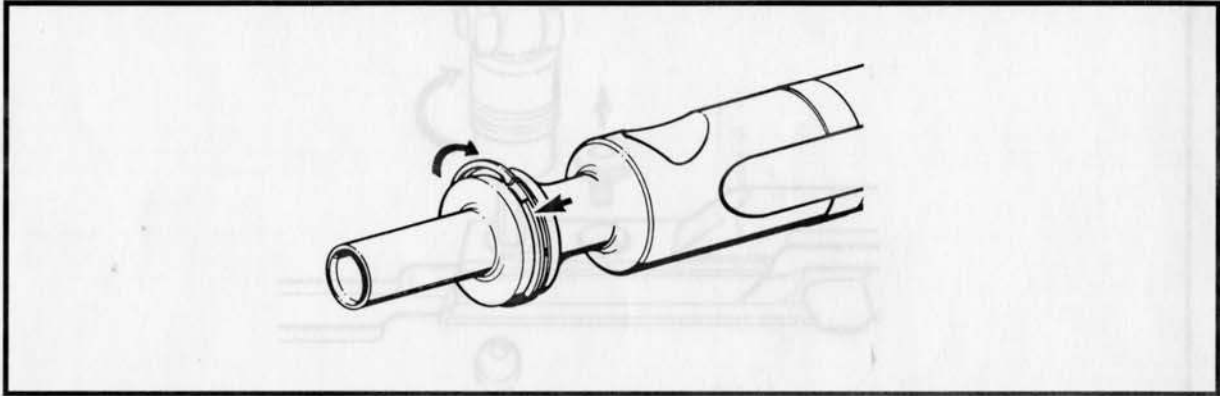

Figure 3-2-36 Installing Bolt Rings
- a. Install the bolt rings onto the bolt taking care not to distort the new rings. To install the bolt rings, see Figure 3-2-36 and proceed as follows:
- (1) Carefully position one end of the bolt ring in the bolt groove and hold in place;
- (2) Gently guide the circumference of the bolt ring into the groove until it snaps into position;
- (3) Repeat for the other two bolt rings; and
- (4) Stagger the gaps in the bolt rings, creating a labyrinth sealing effect, to reduce gas loss during operation.